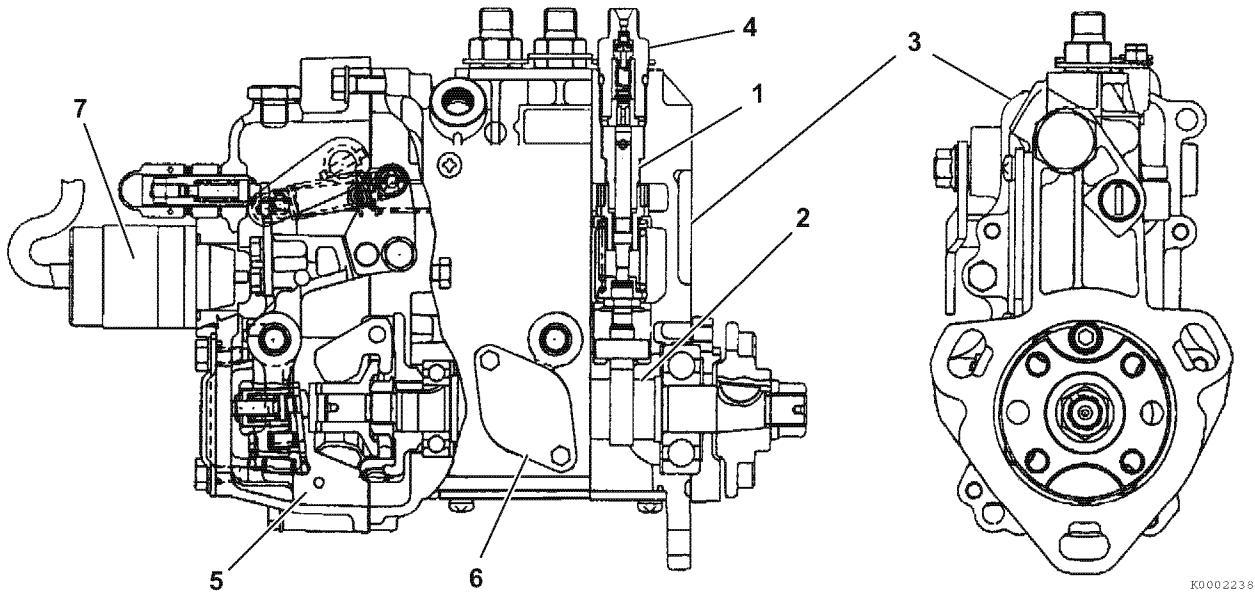

Figure 7-1
The YANMAR ML and MC fuel injection pump is an in-line type pump which consists of a fuel supply plunger (Figure 7-1, (1)) for each cylinder, a camshaft (Figure 7-1, (2)), and a pump housing (Figure 7-1, (3)). A delivery valve (Figure 7-1, (4)) connects to a high-pressure fuel line for each cylinder. The fuel injection pump housing contains a governor (Figure 7-1, (5)).
Fuel from the fuel tank to the fuel injection pump is delivered by a low-pressure electric fuel pump. On a few special models, a mechanical fuel pump is used instead of an electric pump. The mechanical fuel pump is mounted to the fuel injection pump housing in place of the cover plate (Figure 7-1, (6)).
The ML and MC fuel injection pumps are equipped with a stop solenoid (**Figure 7-1, (7)**) that controls the fuel flow inside the fuel injection pump.